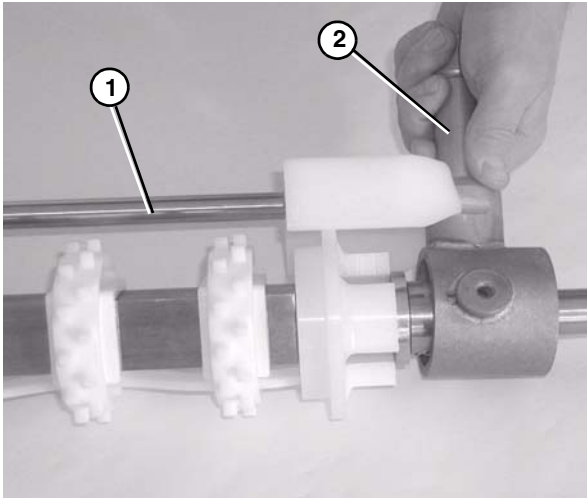

Figure 81
10. Attach the guard bar (**Figure 81, item 1**) to the bearing / motor mount bracket shafts (**Figure 81, item 2**).